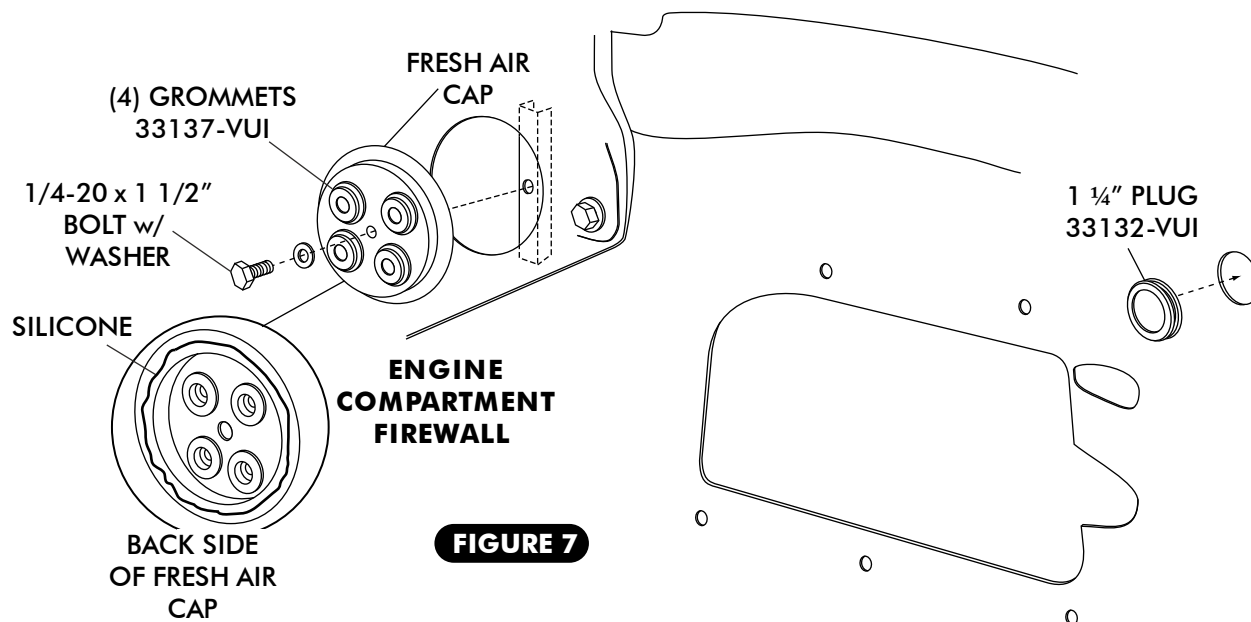

FIGURE 7
- ☐ INSTALL (4) GROMMETS IN FRESH AIR CAP. SEE FIGURE 7 BELOW
- ☐ APPLY A 1/4" BEAD OF SILICONE AROUND THE BACK SIDE OF THE FRESH AIR CAP AS SHOWN IN FIGURE 7.
- ☐ ATTACH FRESH AIR CAP TO FIREWALL USING A 1/4-20 x 1 1/2" BOLT AND WASHER, SEE FIGURE 7.
- ☐ INSTALL 1 1/4" PLUG IN FIREWALL. SEE FIGURE 7.